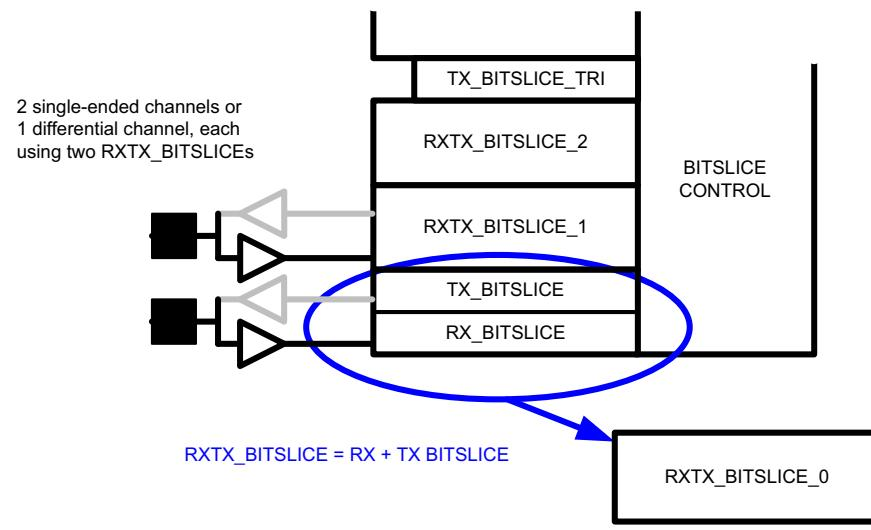

Figure 2-35: Two Single-Ended or One Differential RX Channel
- When using single-ended inputs, two inputs are necessary to calculate the single tap delay, because behind each input pad with input buffer (`IBUF`) there is a `RXTX_BITSLICE` or `RX_BITSLICE` having an input delay line and serial-to-parallel conversion engine (Figure 2-35).
- When using differential inputs, a single data channel input can be used to calculate the single tap delay. A differential input occupies two pads and thus covers two `RXTX_BITSLICE`s. When a normal differential input buffer (`IBUFDS`) is used, only the even `RXTX_BITSLICE` of the two is used. When using a differential input buffer with differential output (`IBUFDS_DIFF_OUT`) one can use both `RXTX_BITSLICE`s covered by the two input pads. This is the solution for measuring a single tap value for a single differential data channel (Figure 2-35).